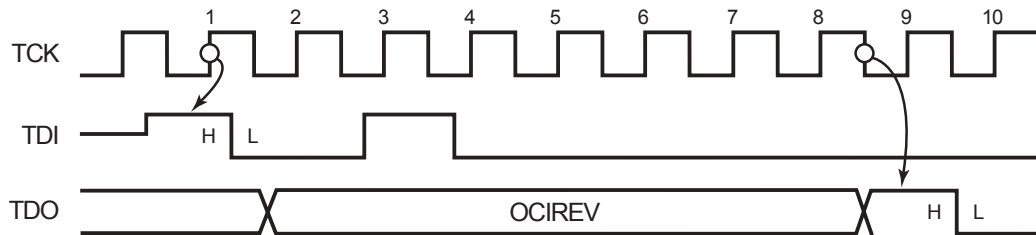

Figure 2. Sample Command Operation
- Figure 2. Sample Command Operation 4
When the boundary register commands SAMPLE, PRELOAD, or EXTEST are captured in the TAP instruction register, the eZ80[®] device places an 8-bit data register between TDI and TDO, as indicated in Tables 3 and 4. The selected register contains the OCI revision, which is shifted out prior to TDO echoing TDI in an 8-bit delay bypass mode. See Figure 2.